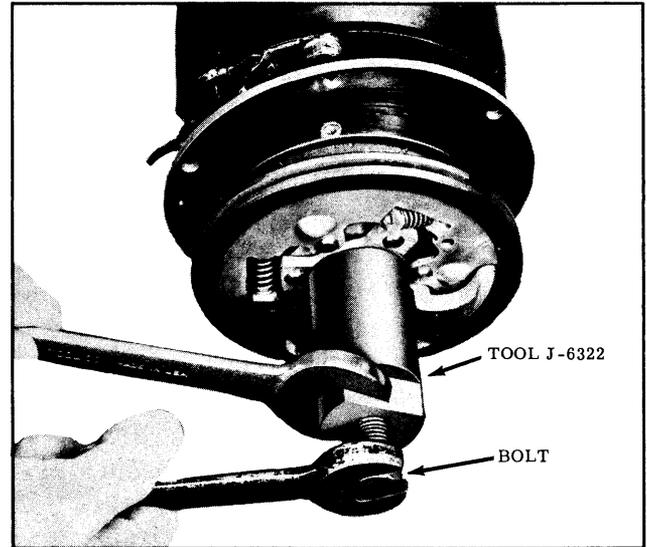

Fig. 14-24 Clutch Removal
6. Thread Tool J-6322 onto hub of clutch assembly. While holding the tool with a wrench, tighten the tool bolt to remove clutch assembly. (See Fig. 14-24) Remove Tool J-6322 from the clutch hub.